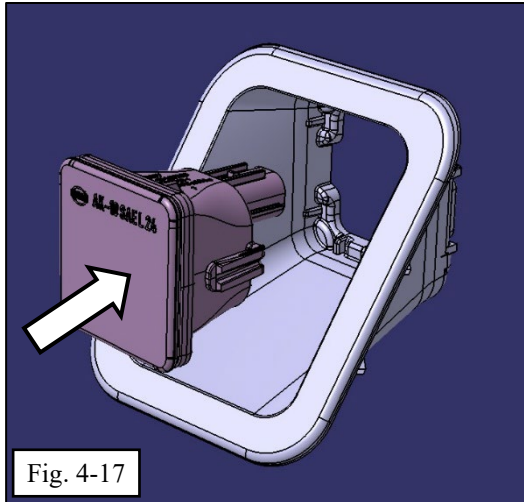

Fig. 4-17
- (l) Attach the previously removed License Plate Lamp to the Steel Bumper LPL Bezel (Fig. 4-17). Ensure both claws on the lamp engage to the bezel.